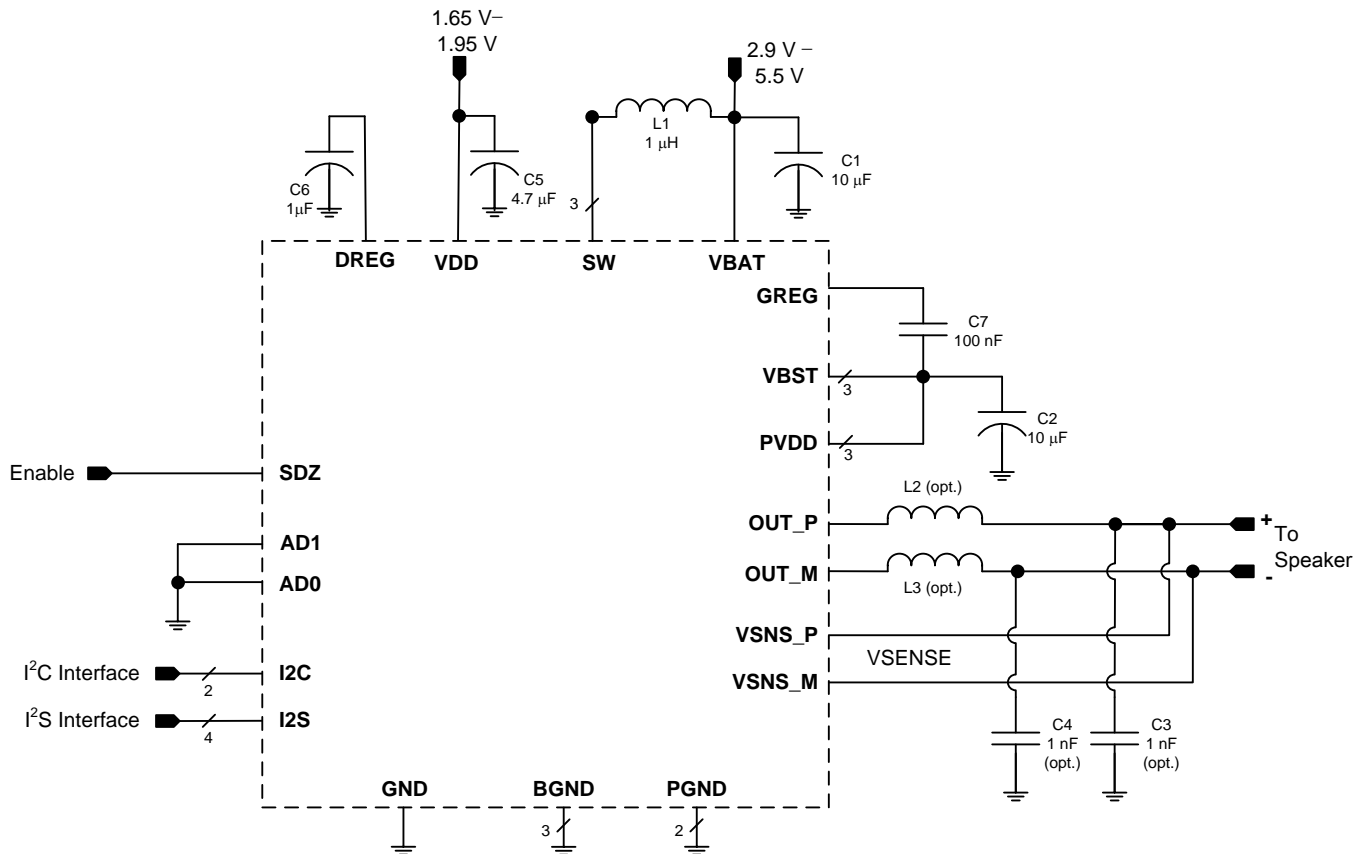

Figure 69. Typical Application - Digital Audio Input
The boost converter requires three passive devices that are labeled L1, C1 and C2 in Figure 69 and whose specifications are provided in Table 298. These specifications are based on the design of the TAS2562 and are necessary to meet the performance targets of the device. In particular, L1 should not be allowed to enter in the current saturation region. The saturation current for L1 should be > I_{LIM} to deliver Class-D peak power.
The TAS2562 supports edge-rate control to minimize EMI, but the system designer may want to include passive devices on the Class-D output devices. These passive devices that are labeled L2, L3, C3 and C4 in Figure 69 and their recommended specifications are provided in Table 298. If C3 and C4 are used, L2 and L3 must also be installed, and C3 and C4 must be placed after L2 and L3 respectively to maintain the stability of the output stage.
The boost supply (VBAT) and associated passives need to be able to support the current requirements of the device. By default, the peak current limit of the boost is set to 4A. Refer to Table 92 for information on changing the current limit. A minimum of a 10 μ F capacitor is recommended on the boost supply to quickly support changes in required current. Refer to Figure 69 for the schematic.
- Use supply decoupling capacitors as shown in Figure 69 and described in Power Supplies.